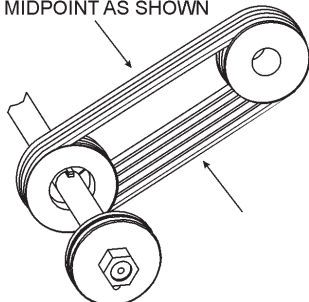

Figure 54. V-Belt Adjustment/Tension
- Remove the **Belt Guard** (Pointers and Covers Assy., item 15), then loosen the tension of the V-Belts
- Loosen the (4) 1-1/2" (38.1 mm) HHC screws (Engine Mount Assy., item 5).
- Loosen and back-off the **Engine Mount Carriage Bolt** (Engine Mount Assy., item 1) from the frame to permit the **Engine Base Plate** (Engine Mount Assy., item 9) to pivot.
- Adjust for the correct V-belt tension (See Figure 54).